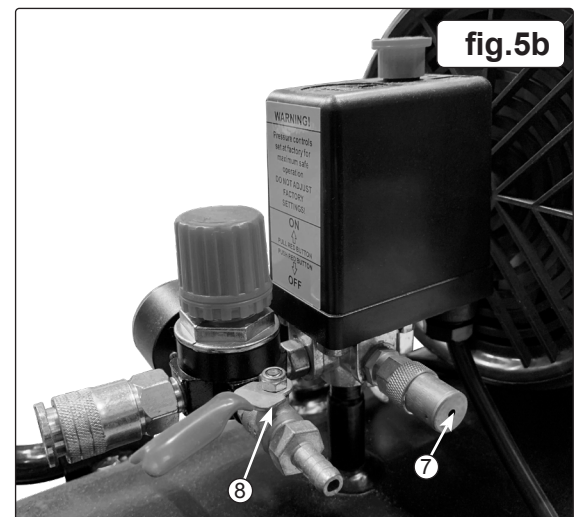

fig.5b
- 5.8.2. The main gauge (fig.5.6) indicates the pressure inside the main tank, **NOT** the pressure supplied to the air equipment, which is shown on the smaller gauge (fig.5.5). Should the pressure in the main tank exceed the pre-set maximum, the safety valve (fig.5b.7) will activate. Clean the safety valve after working 1000 hours, and the compressor thoroughly cleaned.
- 5.14. The tank must now be drained. Release the air left in the tank by opening air tap (fig.5b.8). After drain away condensation (see 5.14.1) that may have formed within the tank. Choose a suitable location for this operation and/or make provision to collect the condensation.